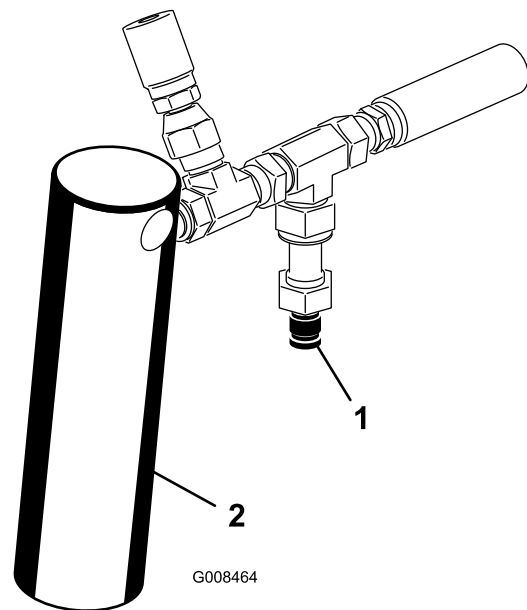

Figure 12
2. Connect a pressure gauge to the test port behind the right lift cylinder (Figure 12).